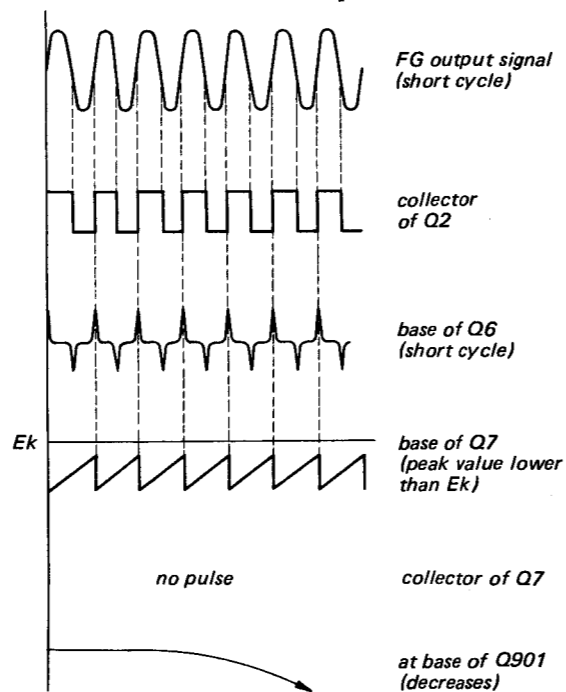

Fig. 7. When motor speed becomes faster
- 1) When motor speed becomes faster (Fig. 7);